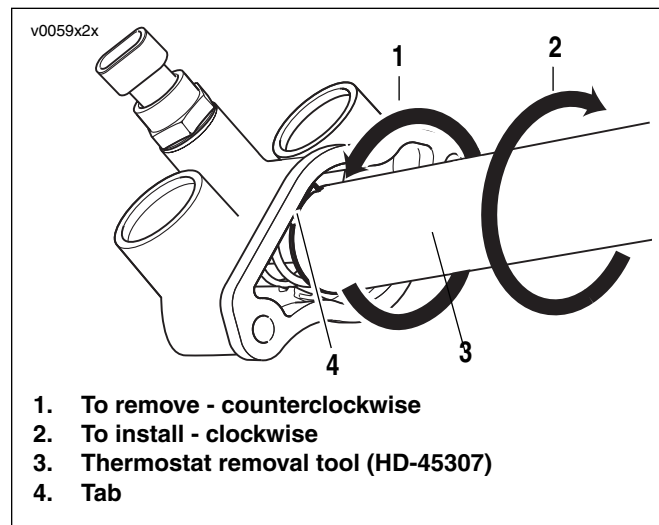

Figure 6-12. Thermostat Removal Tool
13. See Figure 6-12. To remove thermostat from housing, engage tabs on thermostat with slots of THERMOSTAT REMOVAL TOOL (Part No. HD-45307).
1. See Figure 6-12. To install **new** thermostat into housing, engage slots of THERMOSTAT REMOVAL TOOL (HD-45307) into tabs of thermostat while compressing thermostat spring. Turn tool 90° clockwise (CW) to lock thermostat into housing.